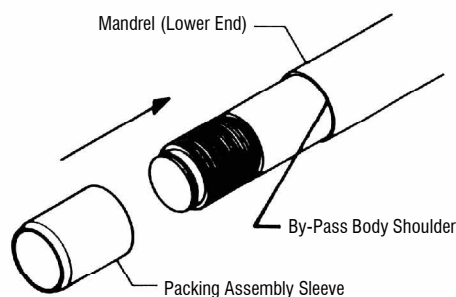

Figure 6
9. Coat the Packing Assembly sleeve (51) with Bowen Jar Lube and slide it up over the lower end of the Mandrel (11) until it is against the By-Pass Body Shoulder. **DO NOT** use thread lubricant (KOPR-KOTE). See Figure 6, page 12.
10. Coat the smooth Mandrel (11) surface from the By-Pass Body Shoulder up to and including the Mandrel Wiper (15) with Bowen Jar Lube. Also coat the entire bore of the Connector Body (18) with Jar Lube. This will make the Connector Body (18) slide on easier.
11. Coat the threads, the surfaces on both ends of the threads and the 15 degree shoulder of the upper end of the Connector Body (18) with KOPR-KOTE®.
13. On Jars with two Connector Body Packing Sets (24 and 25), skip this step since the packing is already installed. Install the female adapter (28) over the Mandrel; up against the Connector Body (18), coat the Connector Body Packing Set (25) with Bowen Jar Lube and install it over the Mandrel against the female adapter (28).
14. Remove the Packing Assembly Sleeve (51) from the Mandrel (11). (See Figure 6 below.)
15. Reposition the Jar with the Vice centered on the Connector Body (18) and clamp securely.
16. Thoroughly clean the Cone (33). Install the Piston Assembly (31) onto the Mandrel (11). The Piston Assembly (31) consists of the By-Pass Body (32), the Cone (33), the Seal Body (34), the Seal Body Seal (35), the Seal Body Seal Protector Ring (36), and the Seal Body Seal Non-Extrusion Ring (37).
17. On the lower end of the Mandrel (11), coat the threads and the end with KOPR-KOTE®. Be careful not to get KOPR-KOTE above the thread relief. REMOVE ANY EXCESS KOPR-KOTE FROM THE THREADS.